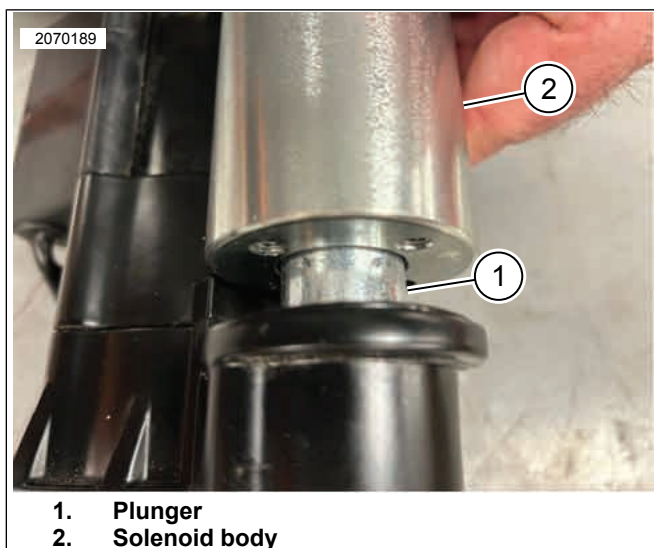

Figure 44. Install Plunger
- d. See Figure 44. Remove suitable holder and insert plunger (1) into solenoid body (2).